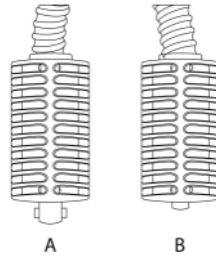

FIGURE 9
1. Identify Male end of the Flexible Steam Hose (FIGURE 9-A). It will have a large cylinder with two tabs on either side.
2. Identify Female end of the Flexible Steam Hose (FIGURE 9-B). It will have a small knob protruding from a cylindrical hole.